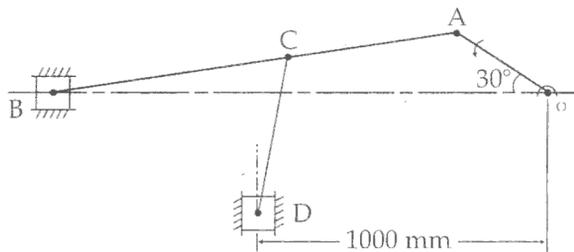

figure 3
- (d) The crank of a slider crank mechanism, as shown in figure 3, rotates at 20 rpm anticlockwise and gives motion to the sliding blocks B and D. The dimensions of the various links are OA = 300 mm; AB = 1200 mm, BC = 450 mm and CD = 450 mm. Determine the linear acceleration of block D.